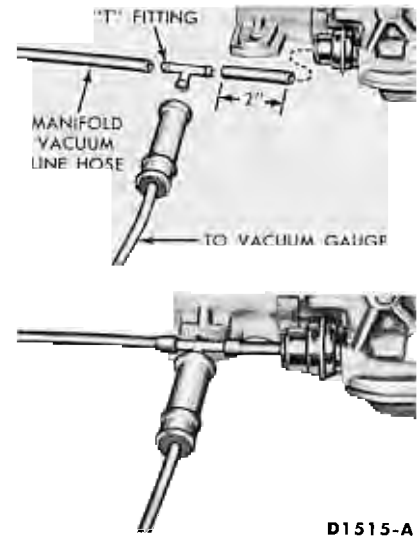

FIG. 6—Typical Vacuum Test Line Connections
1. Attach a tachometer to the engine and a vacuum gauge to the transmission vacuum line at the vacuum unit (Fig. 6).